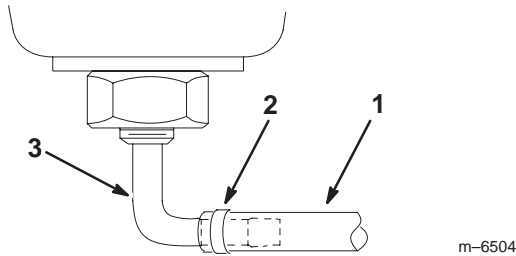

Figure 6
3. Push the fuel line onto the fuel tank connection and secure it with the hose clamp that is on the fuel line (Fig. 6).
Note: Make sure the fuel line and clamp are on as shown in Figure 6.